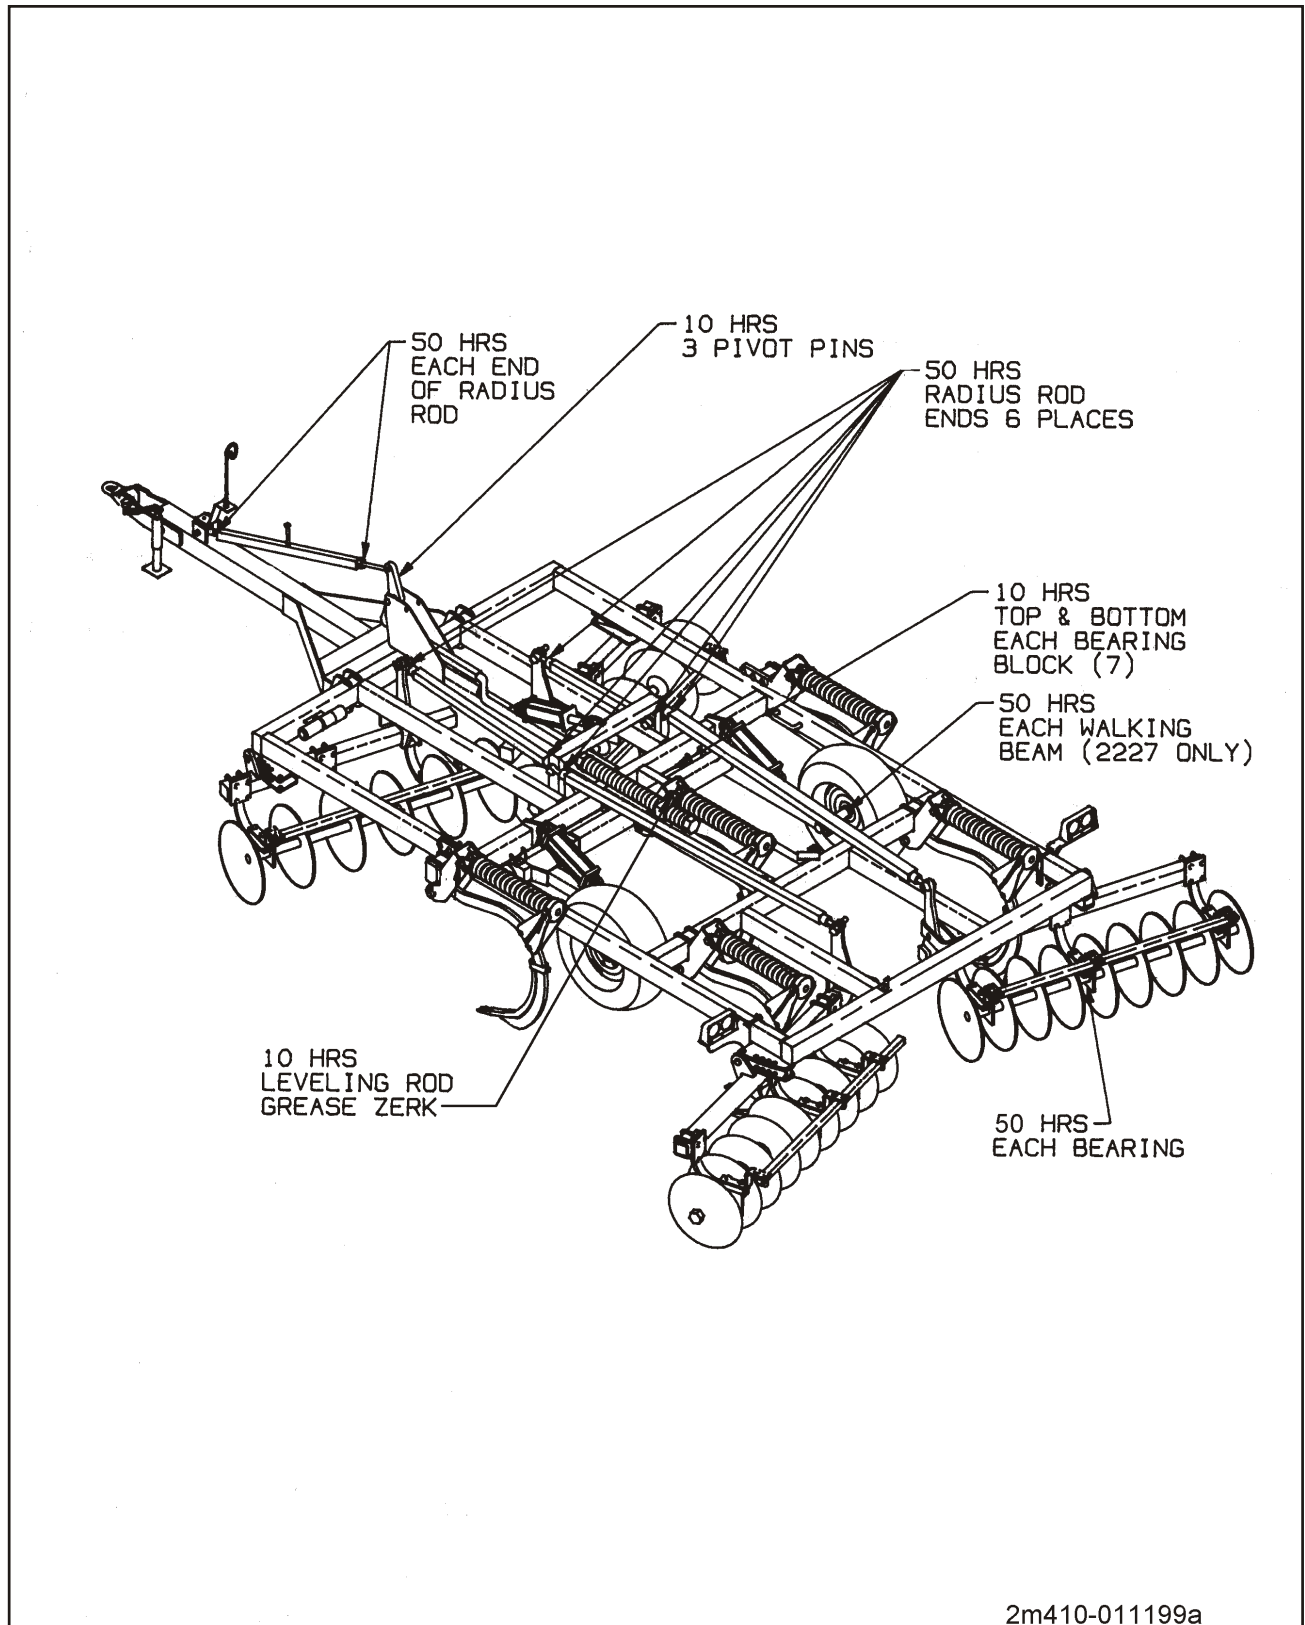

Figure 4-4 Lubrication Schedule
- 4-2.6 Lubricate the machine as shown in **Section 4-6 (See Figure 4-4)**.
Several parts of the Model 2220 Series Disc Chisel need periodic lubrication. Use of a high grade multi-purpose grease is recommended. Refer to the Disc Chisel Lubrication Chart (**See Figure 4-4**) to locate lubrication points and for a recommended maintenance schedule.